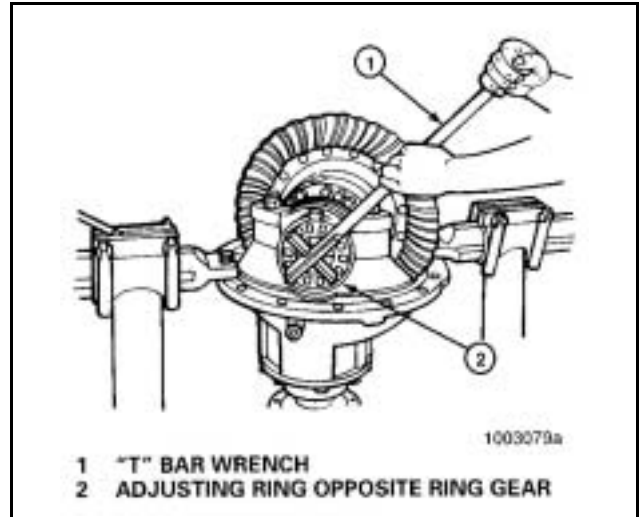

Figure 101
*When you turn the adjusting rings, always use a tool that engages two or more opposite notches in the ring. A "T" bar wrench can be used for this purpose. If the tool does not correctly fit into the notches, damage to the lugs will occur. **Figure 101.***
3. Loosen the bearing adjusting ring that is opposite the ring gear so that a small amount of end play shows on the dial indicator. **Figure 101.** Move the differential and ring gear to the left and right with pry bars while you read the dial indicator. Use the following step **a** or **b**.